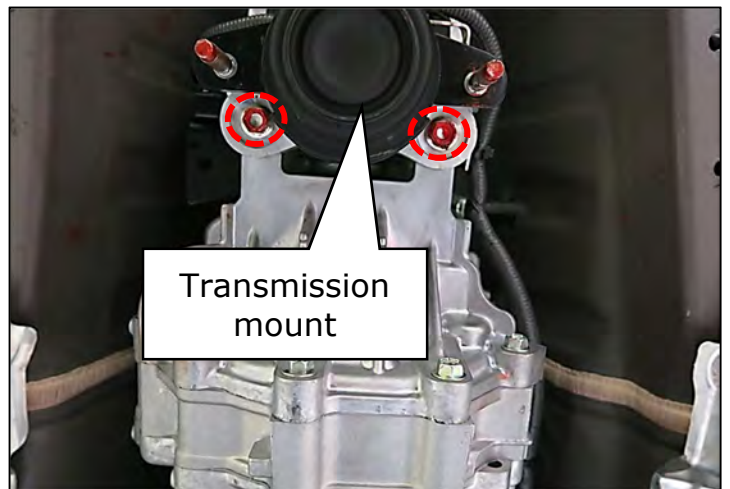

Figure 85
86. Reinstall the rear engine mount (transmission mount) to the transmission. (Figure 85)
- Torque the (2) bolts to 49 N•m(5.0 kg-m, **36 ft-lbs**)